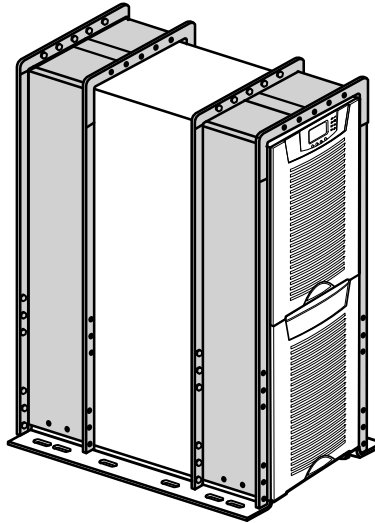

Figure 3. Hold-Down Brackets
11. Place both hold-down brackets across the top of the cabinet (see Figure 3).